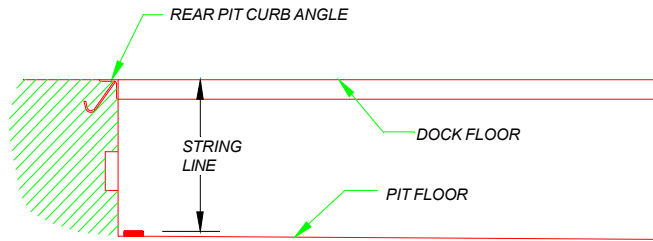

Figure 7
1. Place shims on the pit floor in the locations shown. Continue to stack shims until the dimension from the top of the shims to the dock floor matches the dockleveler height. A string line may be stretched across the pit opening over the shims so an accurate measurement can be taken. (See Figure 7).